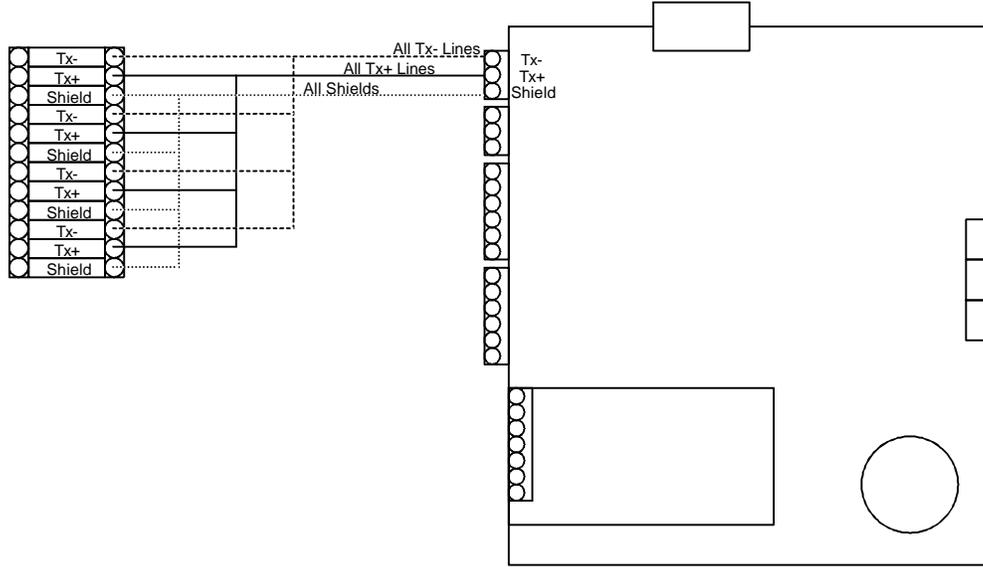

Figure 6 – Connecting Jumpered Wires to the Controller
7. Connect a single line from one of the Tx- connectors to TB-1/Pin-1 on the master controller (see Figure 6).